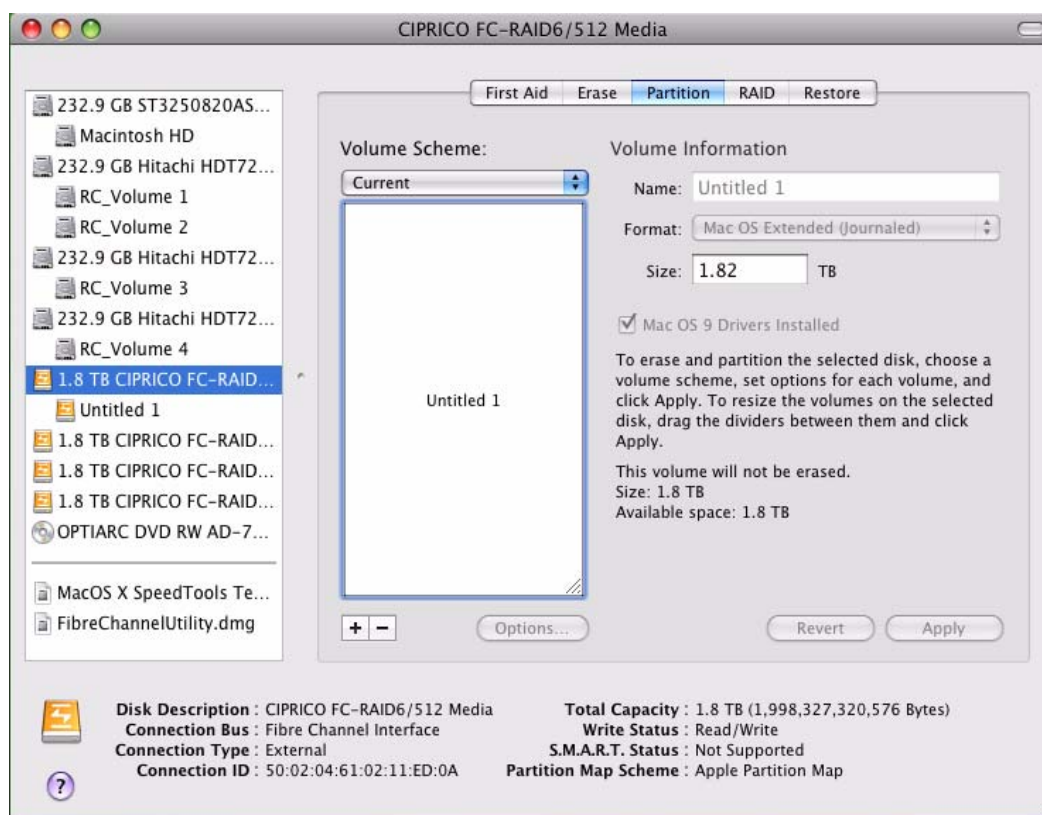

FIGURE 6-7. The Name of the Newly Partitioned Disk at the Apple Disk Utility Screen.
7. When the partition process is finished, the named disk appears at the left side of the *Apple Disk Utility* screen. See Figure 6-7.